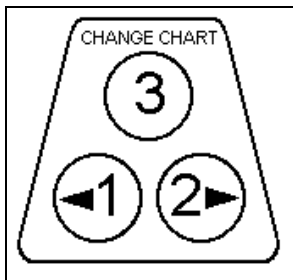

Figure 4: Push buttons.
After the recording unit has been powered-on and is operating normally (recording temperature), press and hold the "change chart" button (#3) until the pen arm begins to move off of the chart. Once the pen has moved off of the chart, press and hold the left arrow (#1) or right arrow (#2) button for approximately eight (8) seconds and then release the button. Refer to Figure 4 for a diagram of the buttons.